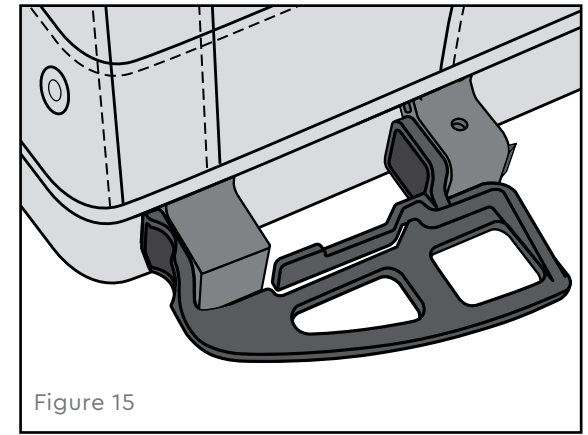

Figure 15
2. Slide the wheel guard into the tow bar receiver until it snaps into place (Figure 15). Lightly bend front tabs inward when inserting.